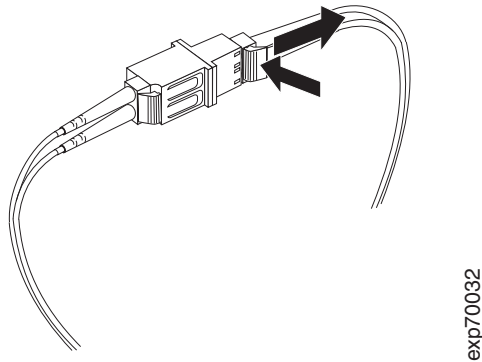

Figure 25. Removing the LC-LC fibre channel cable from an LC-SC fibre channel cable adapter
2. Carefully pull on the connector to remove it. Make sure you grasp the connector and not the cable when removing the LC-LC cable from the LC-SC cable adapter as shown in Figure 25.